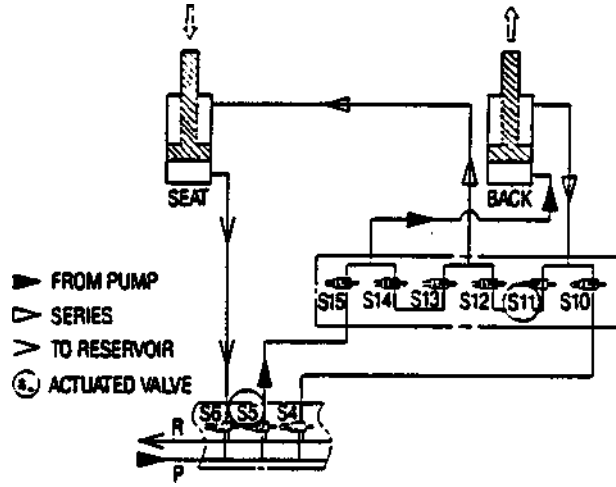

Figure 6-20. Reverse Trendelenburg Schematic
• Trendelenburg/Reverse Trendelenburg (Figures 6-20 and 6-21)